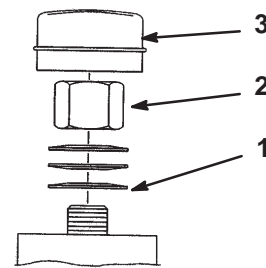

Figure 45
3. Remove dust cap from caster and tighten lock nut (Fig. 45).
4. Tighten until spring washers are flat and then back off a 1/4 turn to properly set the pre-load on the bearings (Fig. 45).
Important Make sure spring washers are installed correctly as shown in figure 45.